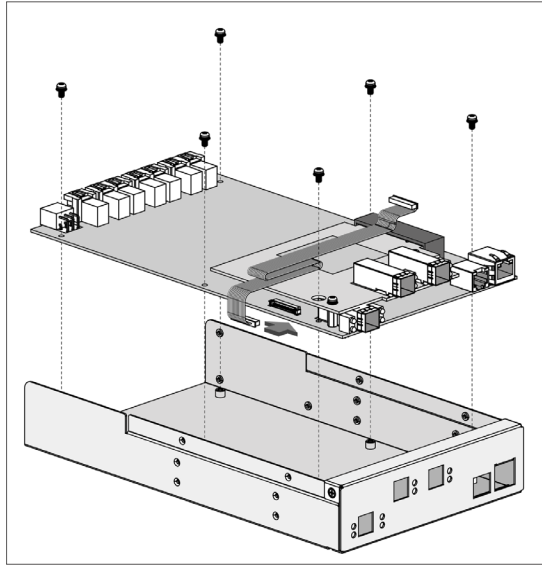

Figure B-6, Loosening the Screw
1. Loosen the screws and remove the backplane controller from the controller caddy, as shown in Figure B-6.
After removing the backplane controller, the cable connector (reference NO.3 in Figure B-5) can be easily insert into the **J4** (14-pin box header battery connector on ARC-8088 mother board), as shown in Figure B-6.